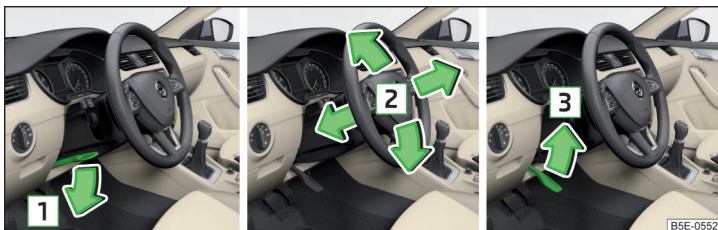

Fig. 16 Adjusting the steering wheel position
- › Swing the safety lever under the steering wheel in the direction of arrow **1** » Fig. 16.